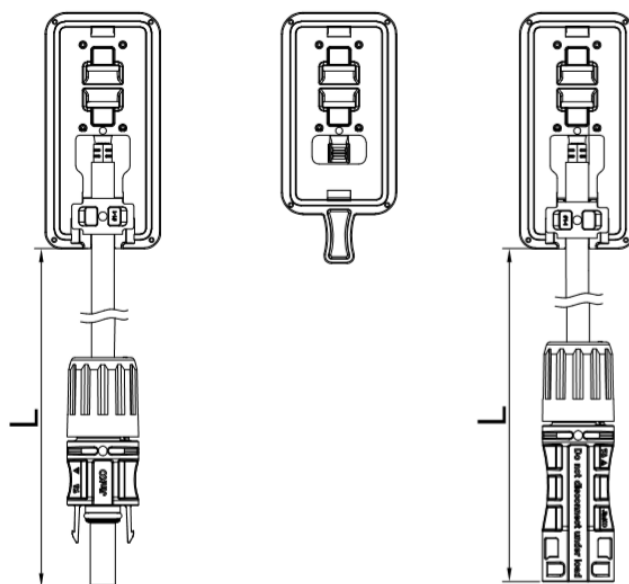

Figure 8 The half-cut cell module/split junction box
- Three split junction boxes (see in Figure 8) with IP68 installed in OYUNGSOLAR modules provide the necessary safety protection for cable and wiring connections, including contact protection of non-insulating electric parts.